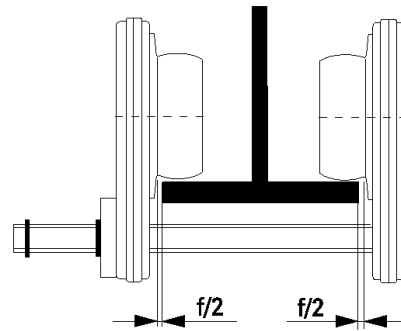

Figure 3-7 Trolley Hoist Clearances
- c. If the end of the runway beam is accessible, slide the trolley hoist onto the end of the runway beam. Check clearance f/2 ( Figure 3-7 and Table 3-1). Adjust if necessary. (See Section 3.4.1 Step 6).